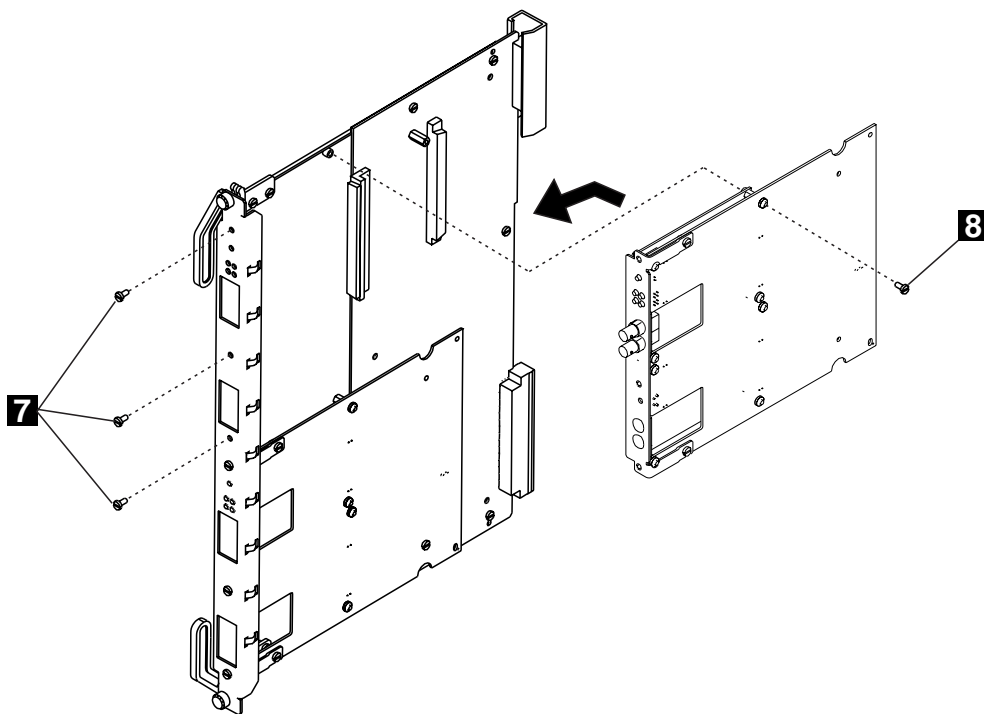

Figure 14. Reattaching the Motherboard
- 8 Reattach the motherboard to the module using the four screws (7 and 8 in Figure 14) that you removed in Step 1 on page 30.